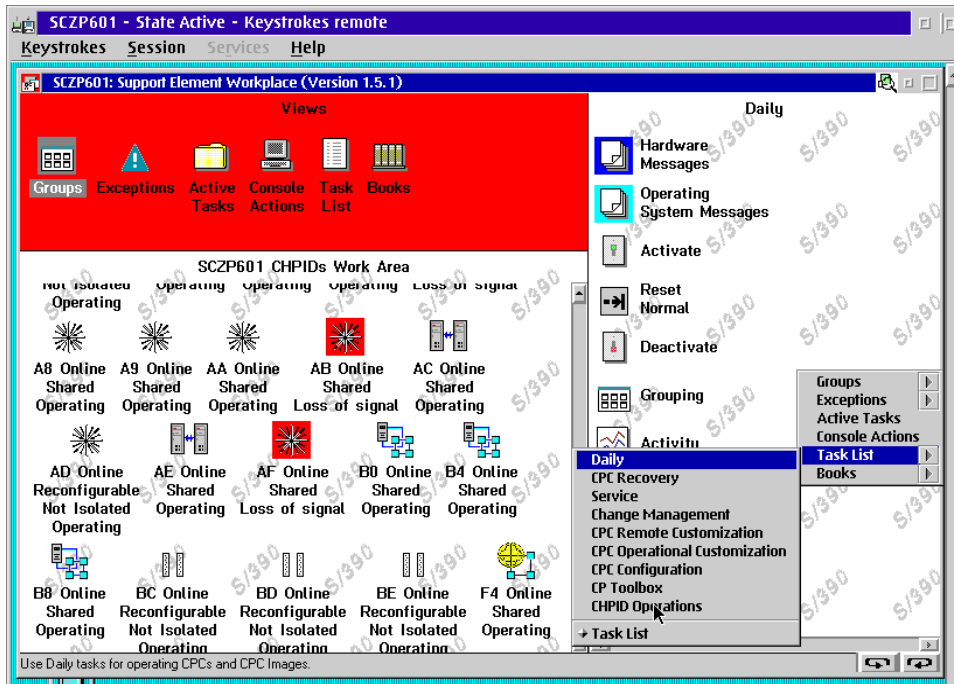

Figure B-13 Support Element CHPIDs Work Area
The CPC CHPIDs Work Area is displayed (see Figure B-13 on page 192).
- Click anywhere in the workplace with the right mouse button and click the arrow next to **Task List** from the pull-down menu. From the next menu, select **CHPID Operations**. (The pull-down menus are shown in Figure B-13.)